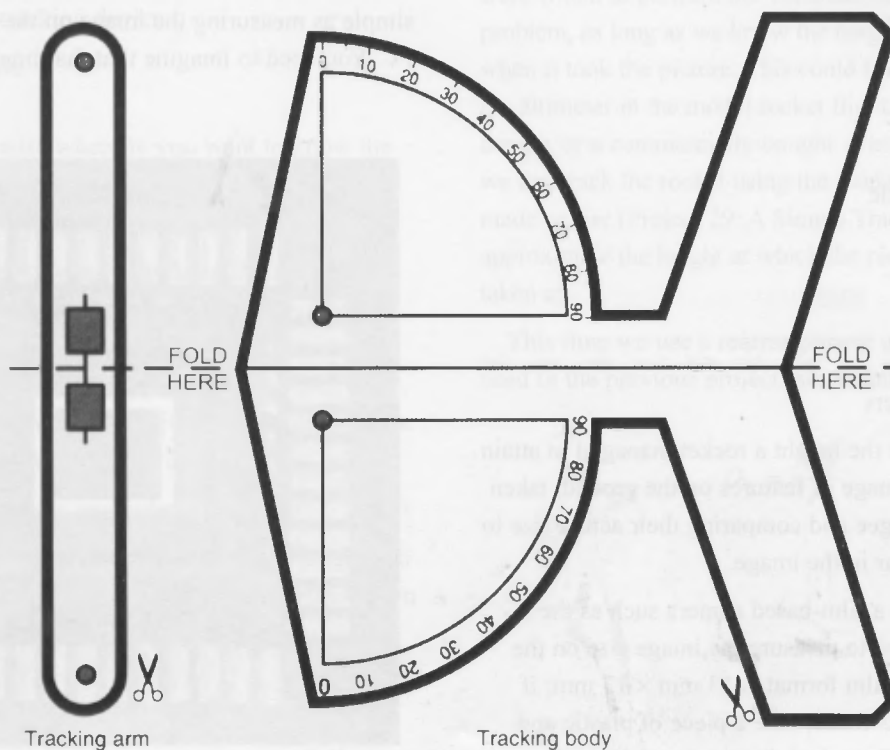

Figure 8-3 Tracking device template.
- Photocopy of Figure 8-3
You need a photocopy of Figure 8-3. Stick this to some card, and carefully cut out around the black lines. Now fold the tracker body along the centre line and glue it to together itself.